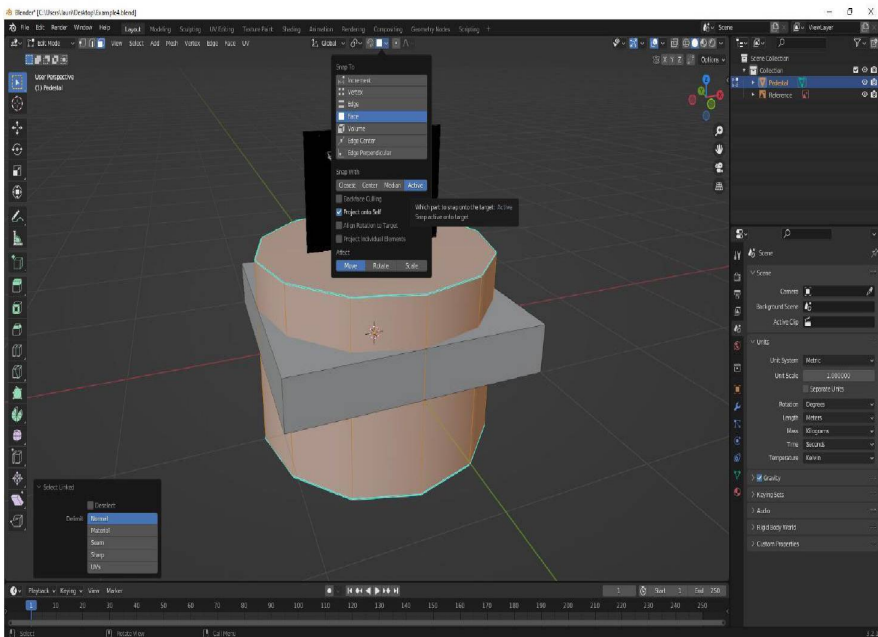

Figure 4.16: Face snapping selected via the Snap To menu, with Snap With set to Active
- In the **Snap To** menu accessed in the middle menu of the 3D Viewport via the icon appearing as a ruler, select **Face** this time, and notice that new options appear in the lower half of the menu. From here, select **Active** from the **Snap With** section, and verify that **Project onto Self** is enabled, as shown in *Figure 4.16*: